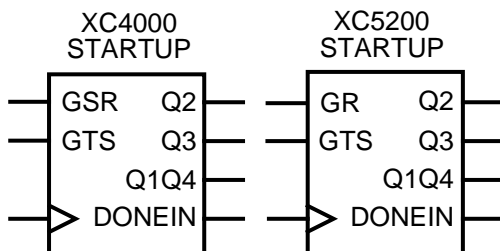

Figure 5: XC4000 STARTUP vs. XC5200 STARTUP
The STARTUP symbol in the two devices has the same functionality except for one minor difference (see Figure 5). The signal called Global Set-Reset (GSR) for the XC4000 is called Global-Reset (GR) in the XC5200. The GSR in the XC4000 will asynchronously preset all flip-flops with the attribute INIT=S or a Preset signal, and all IOB storage elements with a trailing "I" in the name (see Table 3 on page 3), and reset all others (INIT=R). The XC5200 does not support the INIT parameter or flip-flops with a Preset signal; activation of the GR signal asynchronously resets all flip-flops in the design.